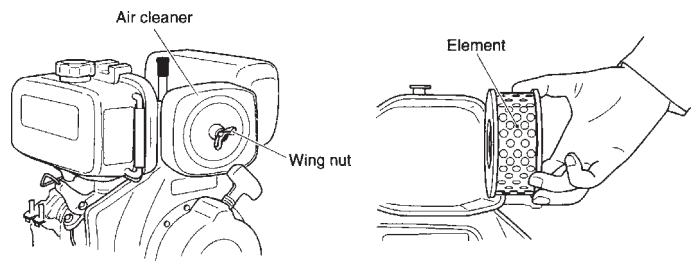

Figure 15. Engine Air Cleaner
1. Loosen the wing nut and detach the cover of the air cleaner shown in Figure 15.
2. Tap the element (Figure 15) several times on a hard surface to remove dirt, or blow compressed air [not exceeding 30 psi (207 kPa, 2.1 kgf/cm²)] through the element, side. **NEVER** wash the element with detergent because the element is oil-soaked type. Replace the element when the output decreases or bad exhaust color is noticed.